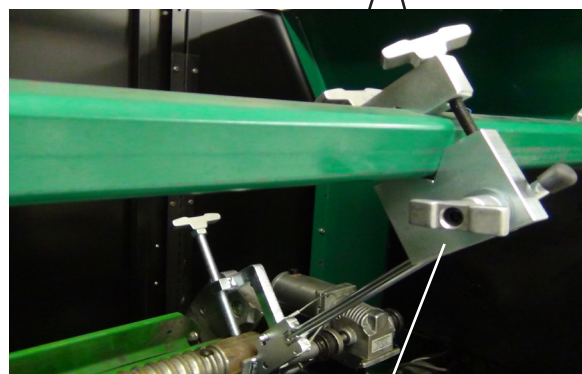

FIG. 30
Loosen the two (2) screw handles on each overhead clamp and move them to where the overhead clamp rods can be attached to the mowing unit. Tighten the mower clamps to the mower, then securely tighten the two (2) locking handles on each overhead clamp. See FIG. 30.
The overhead clamps can be mounted with the clamping rod above the tubing cross bar or they can be mounted with the clamp rod under the tubing cross bar as shown in FIG. 30. It is recommended to mount them under the tubing cross bar whenever possible.